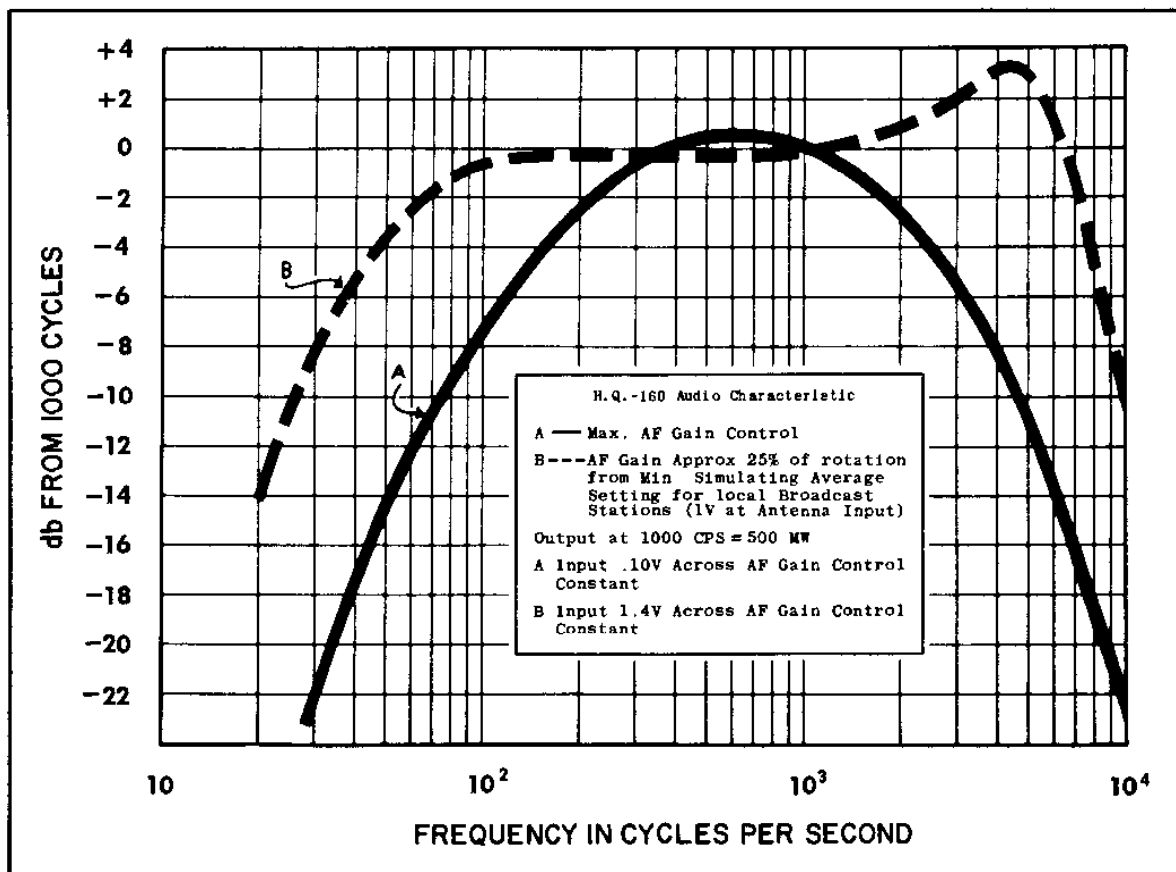

Figure 6. Auto-Response Curve
* AUDIO GAIN—A feature of the audio system is the variable negative feedback employed. Maximum feedback is provided at low settings of the AUDIO GAIN control for best quality reception of strong signals. As the AUDIO GAIN control is increased the feedback decreases so that on reception of weak signals additional selectivity is provided by the audio system, resulting in an increased signal-to-noise ratio. (See fig. 6.) A further advantage is the critical damping of the speaker for elimination of speaker hangover. This reduces distortion and the noise output of the receiver.
The first audio stage is half of the 12AX7 tube (V9). This is resistance-coupled to a 6AQ5 tube (V10) whose circuit arrangement provides an undistorted power output of at least one watt. Negative feedback is provided in such a manner as to be maximum at low settings of the audio gain control and minimum at high settings of the control. This results in excellent fidelity on strong signals and a narrow audio bandpass on weak signals for additional suppression of noise. (See fig. 6.)